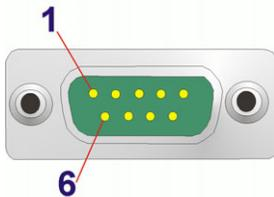
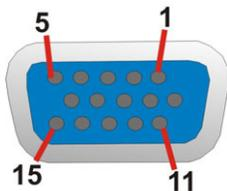

Figure 3-31: RS-232 Serial Port Connector Pinouts
Figure 3-32: VGA Connector
- CN Pinouts:** See **Table 3-26, Figure 3-31, Table 3-27** and **Figure 3-32**